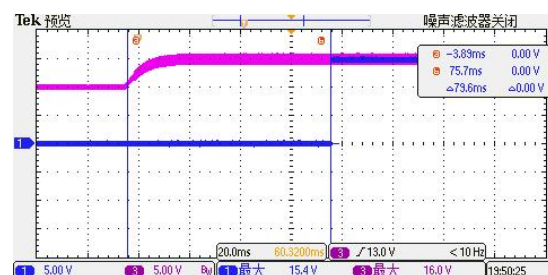

Fig.5 Fault disappearance logic
3. Fault disappears: when the primary side undervoltage disappears, after another 80ms, the FAULT signal is restored to high level; as **Fig.5**